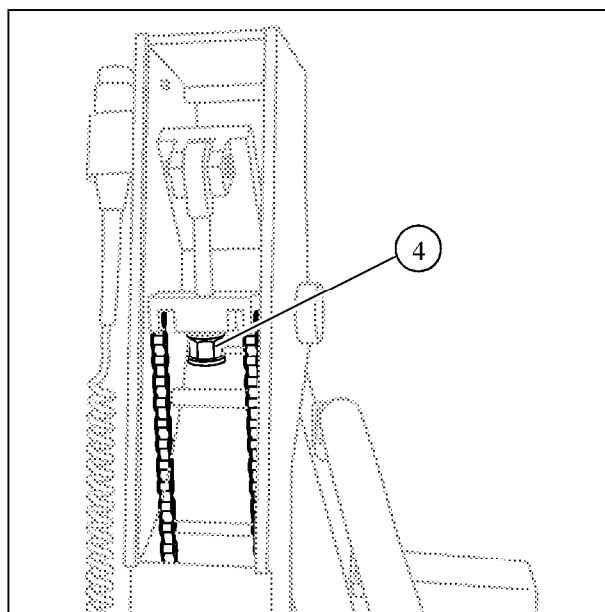

Fig. 21
- Tighten the screw using a 17 mm Allen key (4/ Fig.21).